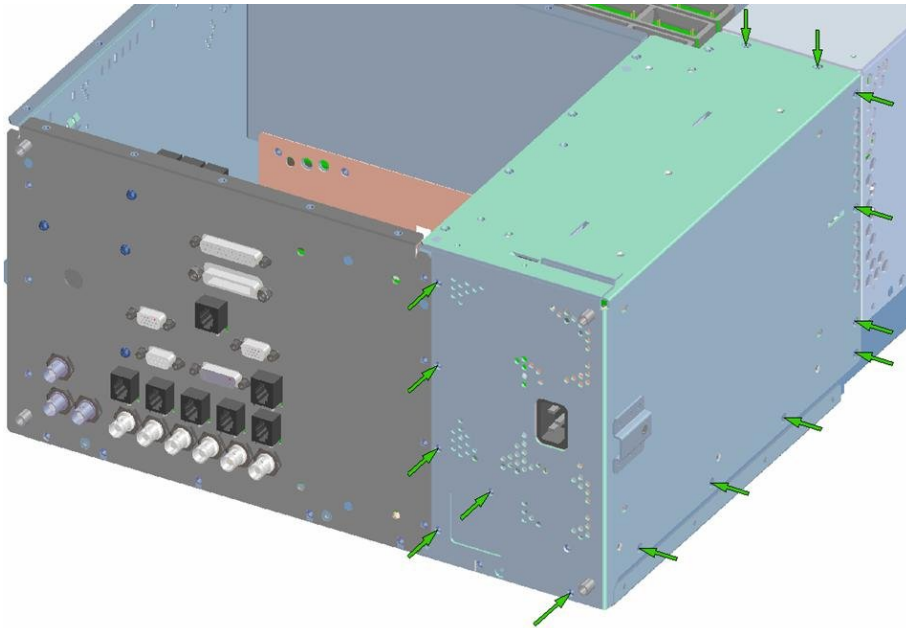

Figure 3
1. Remove 15 screws to access the power supply assembly (Figure 3)